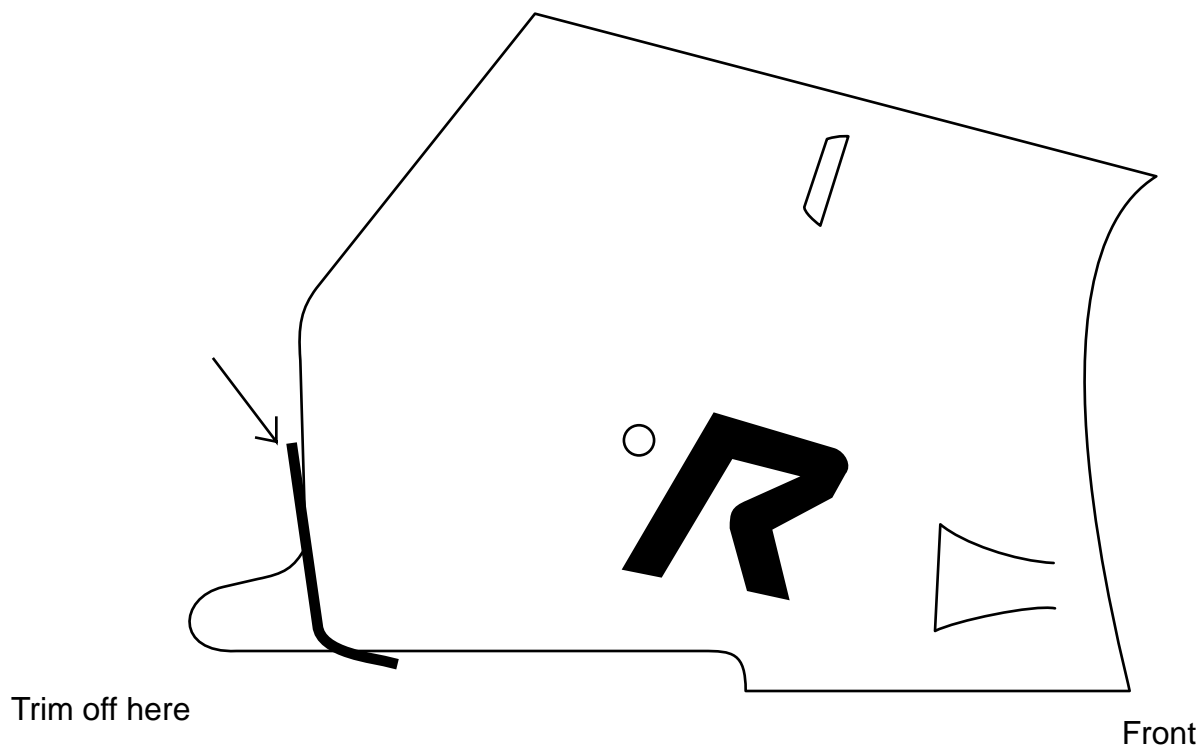

Figure 1
10. The lower fairing needs to be trimmed to accommodate the new exhaust system, refer to Fig. 1.